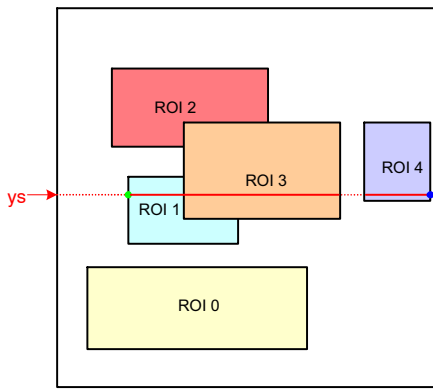

Figure 23. Scanning the Image Array with Five Windows
Figure 23 illustrates a practical example of a configuration with five windows. The current position of the read pointer (*ys*) is indicated by a red line crossing the image array. For this position of the read pointer, three windows need to be read out. The initial start position for the x-kernel pointer is the x-start configuration of ROI1. Kernels are scanned up to the ROI3 x-end position. From there, the x-pointer jumps to the next window, which is ROI4 in this illustration. When reaching ROI4's x-end position, the read pointer is incremented to the next line and *xs* is reinitialized to the starting position of ROI1.
- The read pointer is not necessarily incremented by one, but depending on the configuration, it can jump in y-direction. In Figure 23, this is the case when reaching the end of ROI0 where the read pointer jumps to the y-start position of ROI1